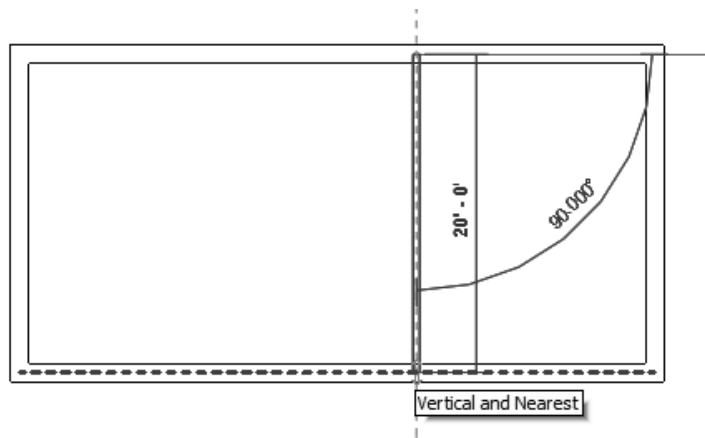

Figure 3-53 Specifying the endpoint of the first interior wall segment
- Next, move the cursor vertically downward near the lower exterior wall segment. When the **Vertical and Nearest** symbol appears, as shown in Figure 3-53, click to specify the location of the endpoint of the wall segment. The first interior wall segment is sketched.